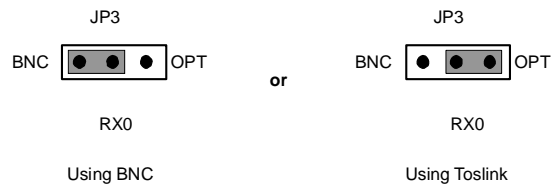

Figure 2 Selection of Digital input (Bi-phase input)
- 1-1-3. When Digital input (Bi-phase input) is used for RX0 pin, Optical Link PORT3 (TORX176) or BNC Connector J12 is used. JP3 (RX0) selects this. (Refer Figure 2)